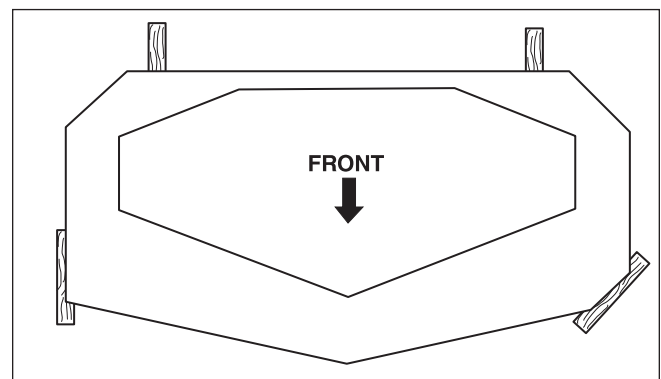

Figure 40. 2 x 4 Locations
4. Block up the mower deck until all hanger chains are slack. Refer to Figure 40.